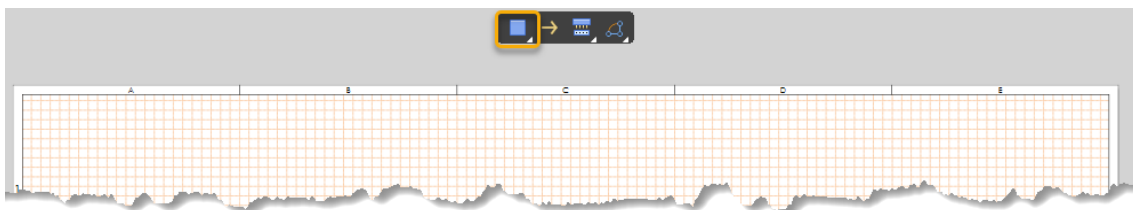

Figure 6. MB Schematic Active Tool Bar
17. Open the MB Schematic `SCH-MB-BicycleHeadLamp-[Your Name].MbsDoc`. Graphical blocks placed on the schematic as Modules will represent each child project to define the Multi-Board logical system design foundation. From the tool bar seen in Figure 6 below. Click on the **Module Icon**. Cursor will change to small cross-hairs.